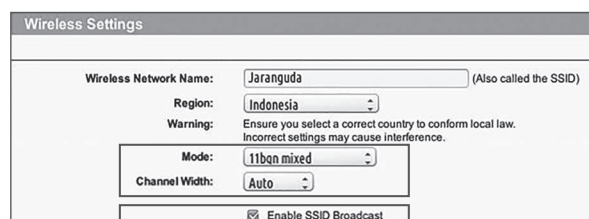

Fig. 1
2. Make sure your router 802.11 mode of wireless setting is b/g/n mixed. (See Fig. 1)
3. Make sure your router channel/ band width of wireless setting is Auto or 20M or 20M mixed 40M. (See Fig. 1)
4. Make sure your router Enable the SSID Broadcast function when you connect the machine with the App. And you can close it after you connect successfully. (See Fig. 1)